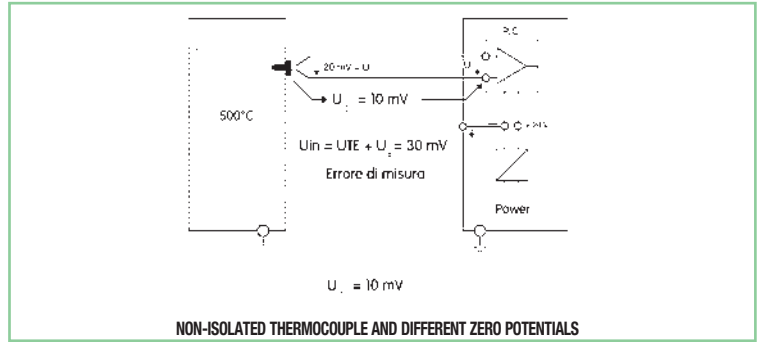

fig. 3
- electrically isolates and separates the circuit of the sensor from the control and power supply circuits. Thus each circuit operates with reference to its own zero potential which, being isolated from other circuits, cannot be altered by differences in potential always present between different earth references (Figs. 3).